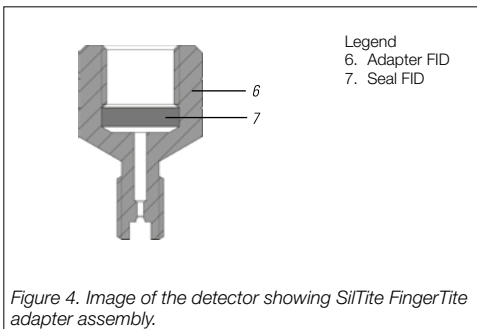

Figure 4. Image of the detector showing SiITite FingerTite adapter assembly.
3. Locate the adapter FID (6) and seal (7) (the seal may be pre-assembled or may have become loose). Confirm the seal is present and assemble as displayed in Figure 4.